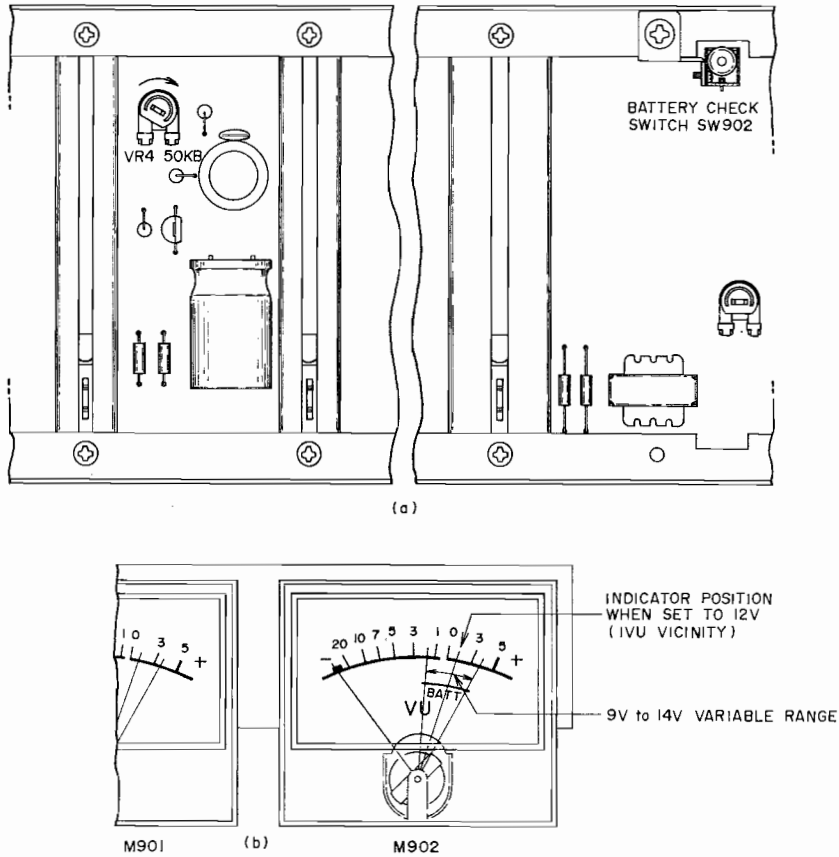

Fig. 3 Battery Check Level Adjustment
1. BATTERY CHECK LEVEL ADJUSTMENT (Refer to Fig. 3)